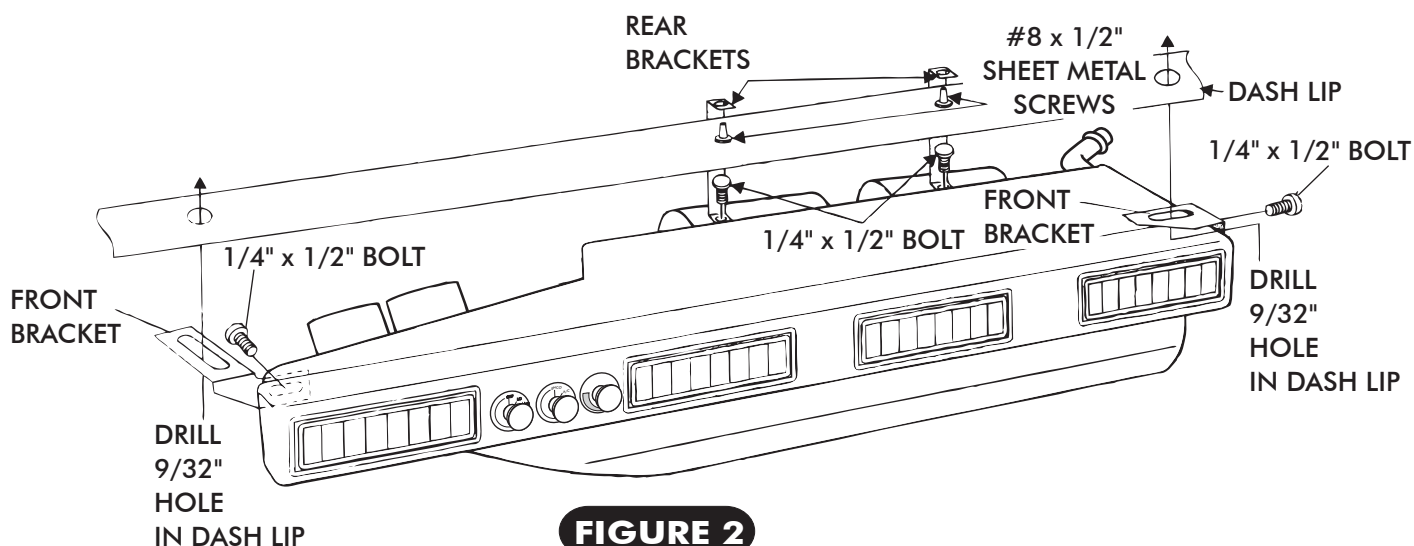

FIGURE 2
- ❑ ATTACH EVAPORATOR BRACKETS TO EVAPORATOR (SEE FIGURE 2).
- ❑ POSITION EVAPORATOR WITH BRACKETS UNDER DASH. MARK AND DRILL TWO (2) 9/32" DIAMETER HOLES UNDER THE LIP OF THE DASH.
- ❑ ATTACH THE FRONT BRACKETS TO THE DASH WITH 1/4" x 1" BOLTS, WASHERS AND NUTS PROVIDED (SEE FIGURE 2).